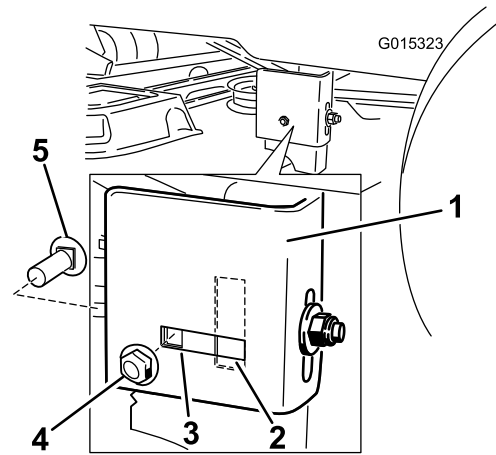

Figure 49
- Move to the left side of the machine. Remove the side carriage bolt and locking nut from the fixed position and install it into the rear, slotted position and leave it slightly loose (Figure 49).